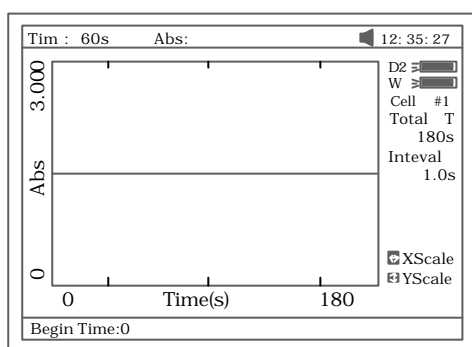
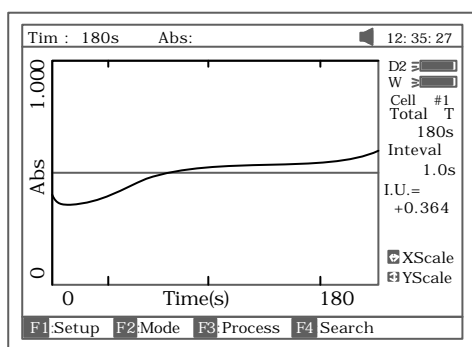

Fig 57
Fig 58
- Press **[F3]** to process the data, and enter "Begin Time", "End Time" and "Factor" (Fig 57) and the value in I.U. will be calculated and displayed (Fig 58). The average straight line between the Begin Time and End Time will be calculated. The gradient of this line gives the rate of change of ?A/min.